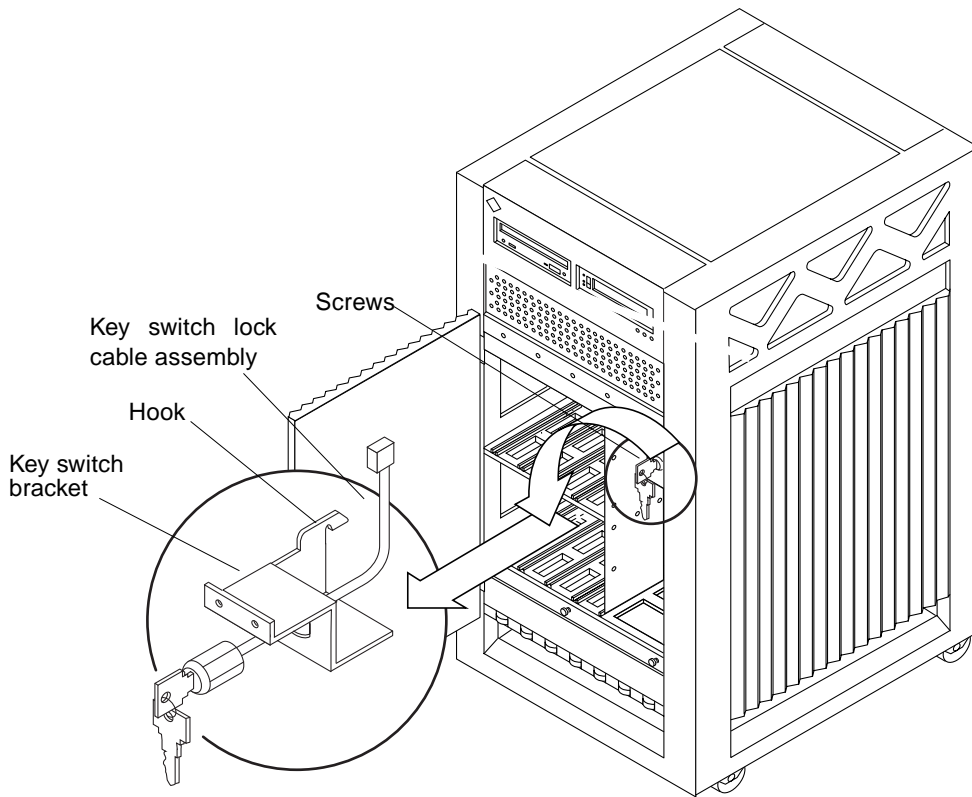

FIGURE E-10 Removing the Key Switch Lock Cable Assembly
The key switch lock assembly has a hook that sits on the bracket in the chassis. You need to turn the assembly so that the hook clears the bracket before the key switch lock assembly can be removed (FIGURE E-10).
- b. Remove the key switch lock cable by pulling it through the keyhole (FIGURE E-10).**
Position the key switch lock cable so that the arrow on the front of the cable assembly is turned upward (FIGURE E-10).
3. **Twist the key switch lock assembly to the right so that the hook rests on the bracket in the chassis (FIGURE E-10).**